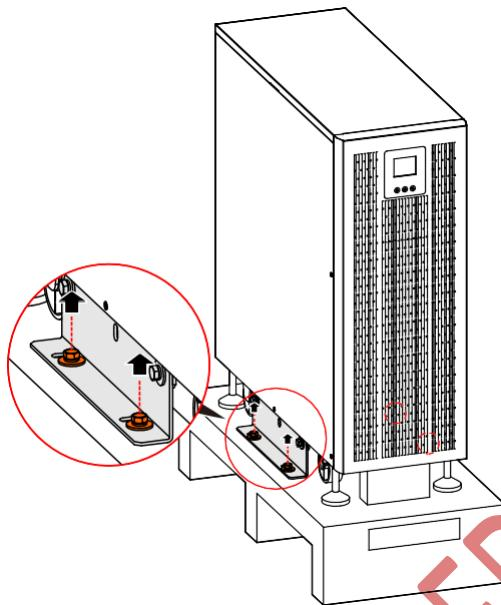

Figure3-3 Dismantle the hexagonal bolts
Step 6 If UPS is OK, dismantle four hexagonal bolts M8×80 (two pieces on the left and right side respectively) between the anchor frame and anchor support plate, as shown in Figure3-3.